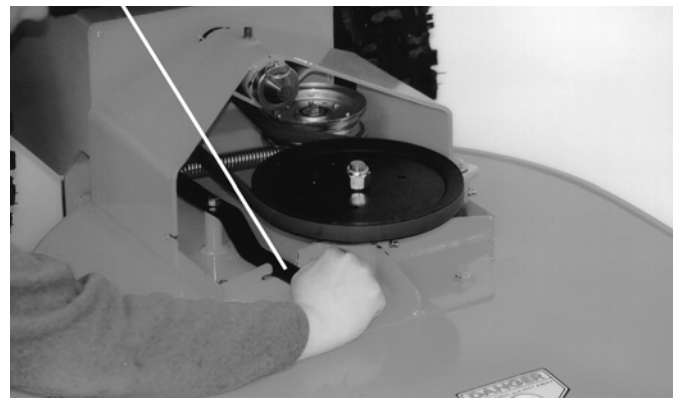

Figure 5
2. Release the belt tension lever (*Figure 5*).